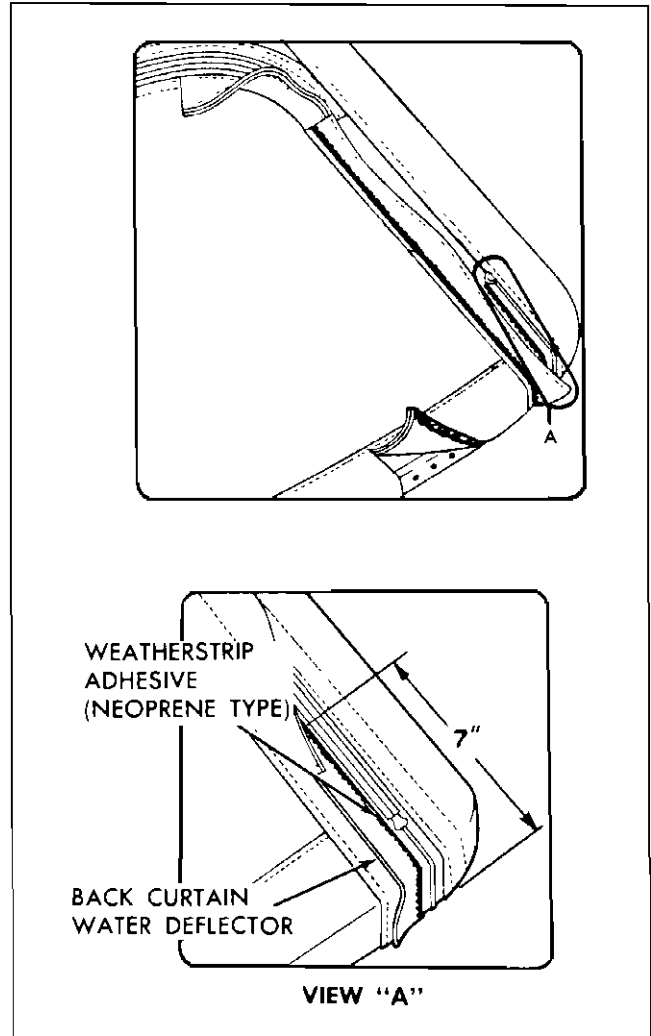

Fig. 7-31 Back Curtain Sealing
7. Apply neoprene-type weatherstrip adhesive to stitches which secure back curtain water deflector along outboard edge of deflector (view A, Fig. 7-31).